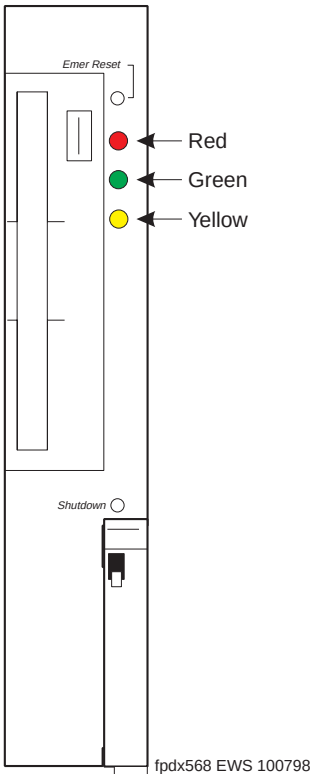

Figure 2-3. DEFINITY AUDIX System LED Display
7. As the DEFINITY AUDIX system boots up, watch the three LEDs on the faceplate (see Figure 2-3).